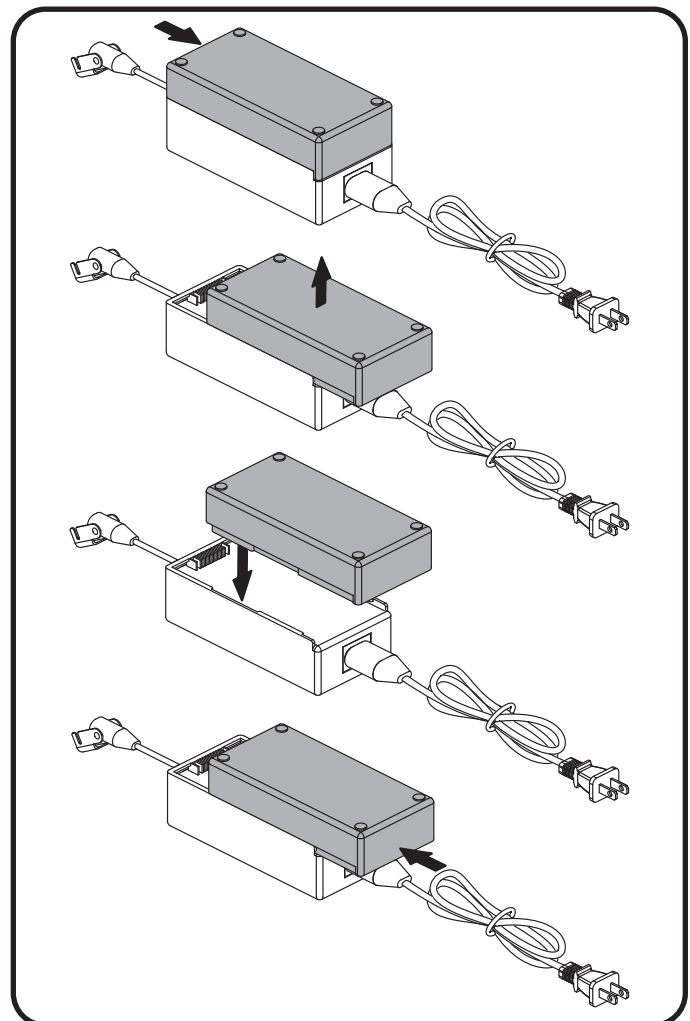

Figure 4.6 Lithium-Ion Battery Replacement
5. Place the new lithium-ion battery on top of the external transformer with the securement grooves toward the external transformer (fig. 4.6).